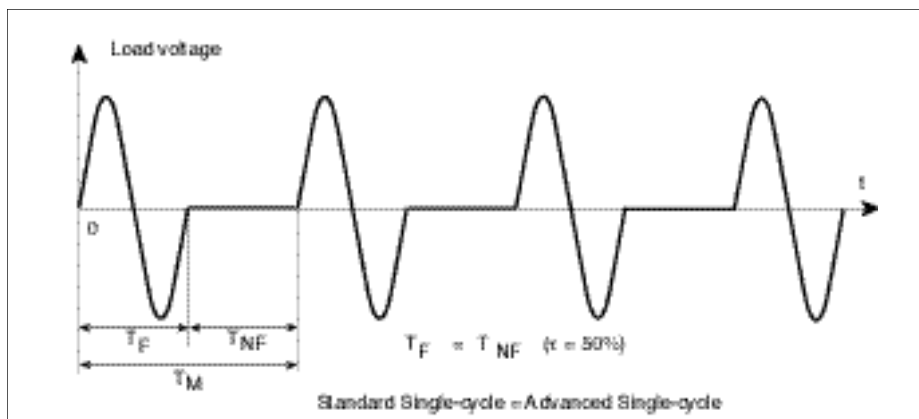

Figure 5-3 'Single-cycle' and 'Advanced Single-cycle' firing modes with $\tau = 50\%$ ($T_F = T_{NF}$)
- For $\tau = 50\%$, firing and non-firing times each correspond to **one mains cycle** (see Figure 5-3).